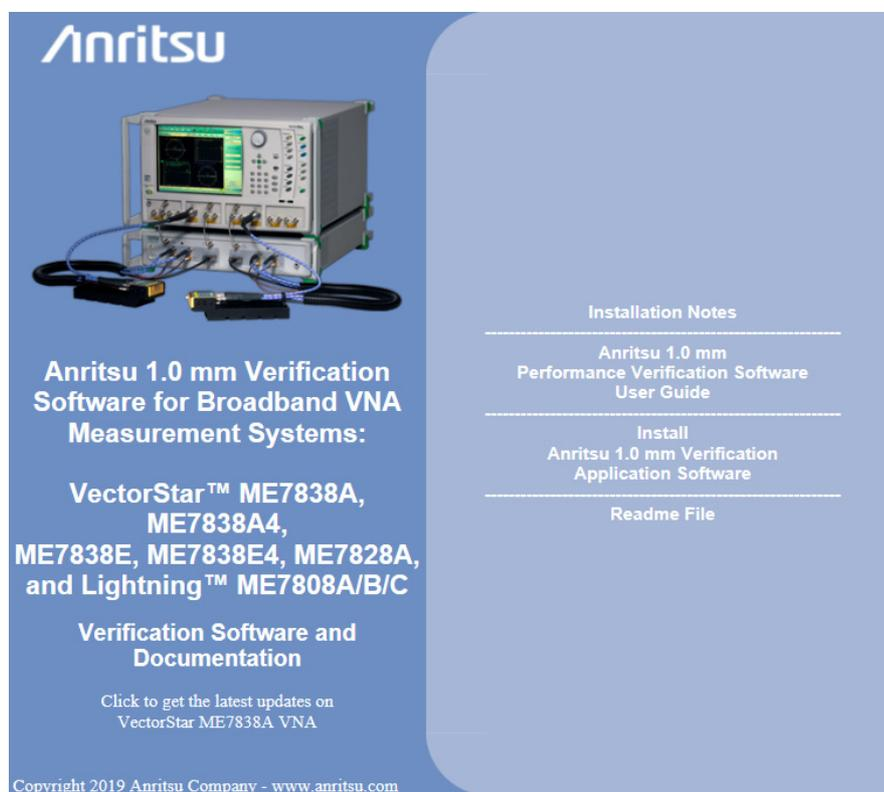

Figure 3-1. PVS Installation and Documentation Screen
11. The installer adds all required files and makes the necessary registry updates on the PC Controller. When done, the navigation page (Figure 3-1) reappears.